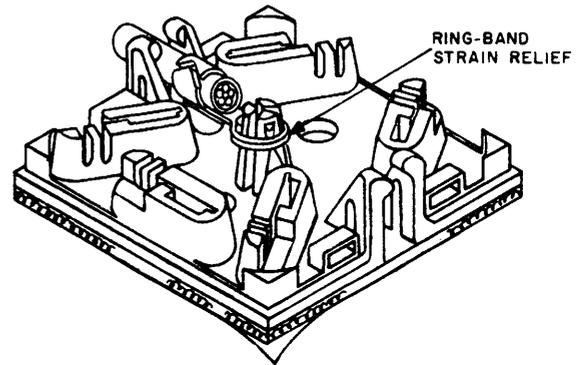

Figure 37. No. 4110 Connector Showing Strain Relief.
7.17 To install a line cord into the number 4110 connecting block, snap the ring-strain relief over the center post, or ear-strain relief into the entry port, and twist into the notches. Insert the spade terminals to the appropriate spade sockets (Figure 37). (Two telephone sets may be installed at the same connecting block by inserting the spade terminals back to back.)